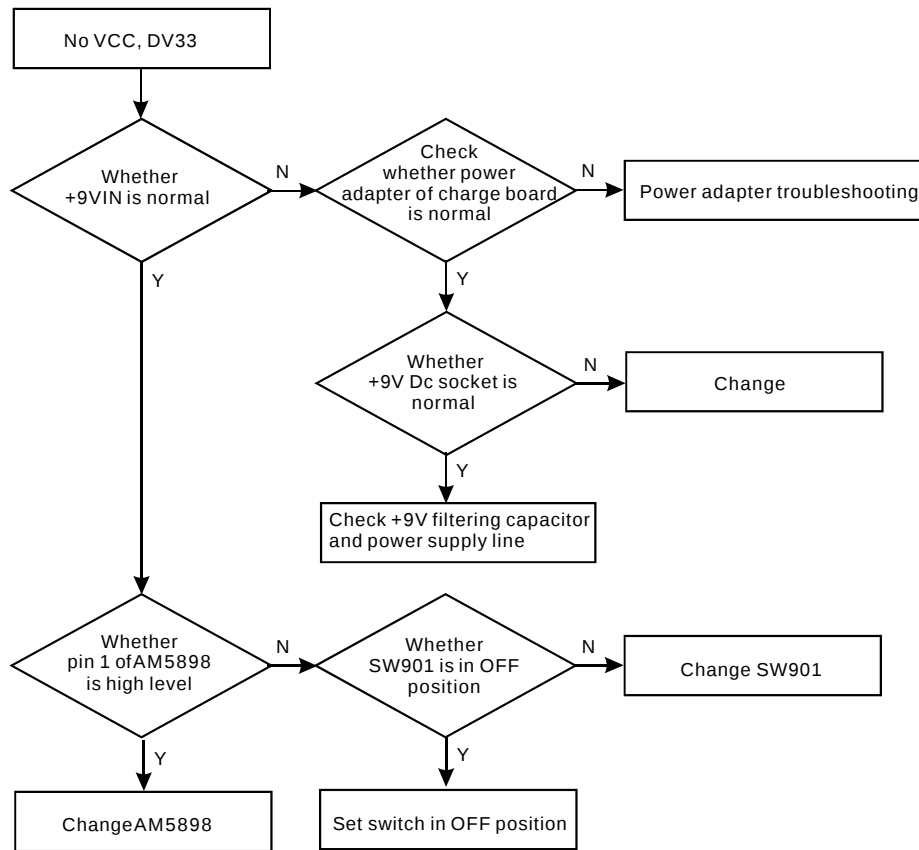

Figure 3.3.2.5 Troubleshooting flow chart for “No VCC, DV33V voltage”
6. Troubleshooting flow chart for “Audio has no output” is shown as in the following figure 3.3.2.6: